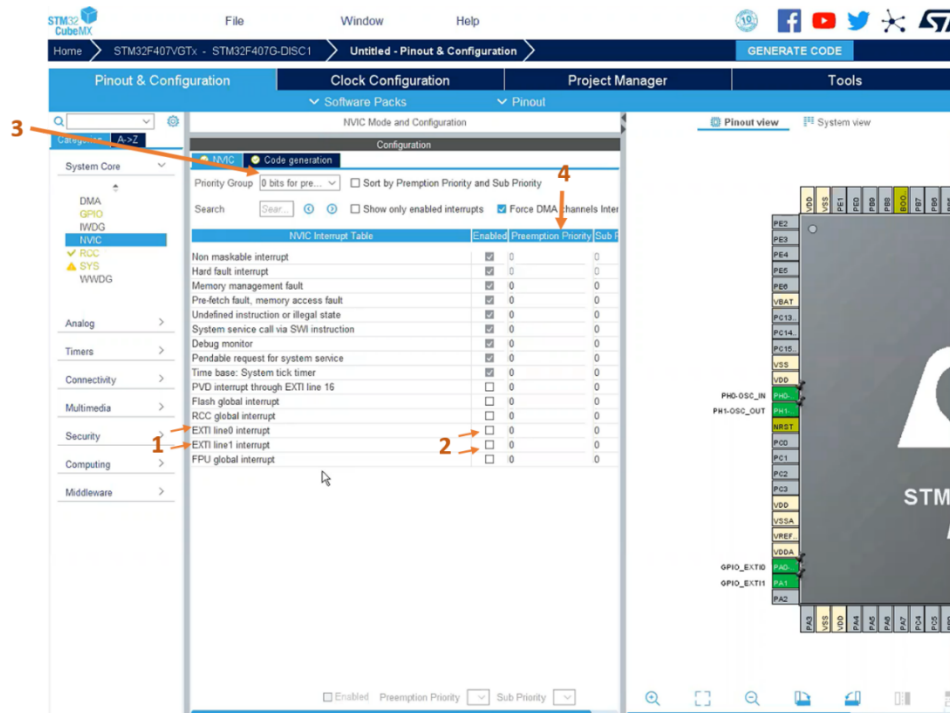

Figure 2
3. Come to the NVIC menu. Firstly set the enable mode for the EXTI line0 & EXTI line1(Figure 2, 1 and 2 steps). Then, identify the priority levels of the interrupts. Select the Priority Group as 2 bits (which indicate how many bits are needed to identify the priority level) (Figure 2, 3. step). Then, select preemption priority as 1 for the EXTI0 and as 2 for the EXTI1 (Figure 2, 4. step).